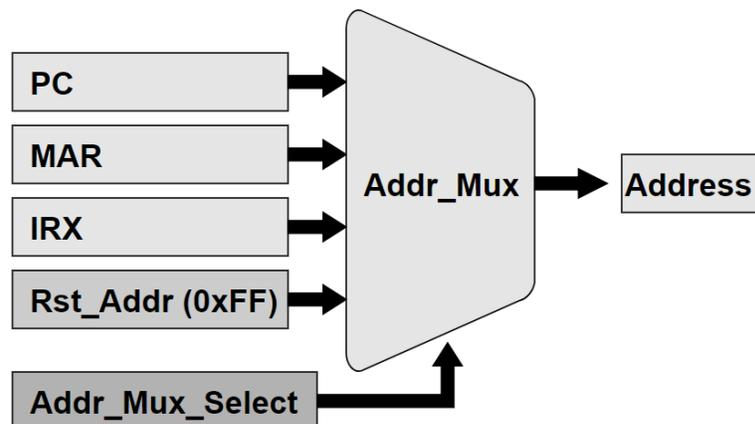

Figure 5: Simple Multiplexer (Mux)
- 1.4. Design the multiplexer shown in Figure 5 with `Addr_Sel` as the select signal, and `Rst_Addr` (we will use address 0xFF), `PC`, `MAR`, and `IRX` as 8-bit input signals.
- 2.7. Implement the multiplexer program that you made in the Prelab, as shown in Figure 5. To test the multiplexer we need to hard code in Verilog `Rst_Addr` to `0xFF`, `PC` to `0x0A`, and `MAR` to `0x10`. Connect `IRX` to the 8 DIP switches, and `Mem_Sel` to the 2 push-button switches on the board.